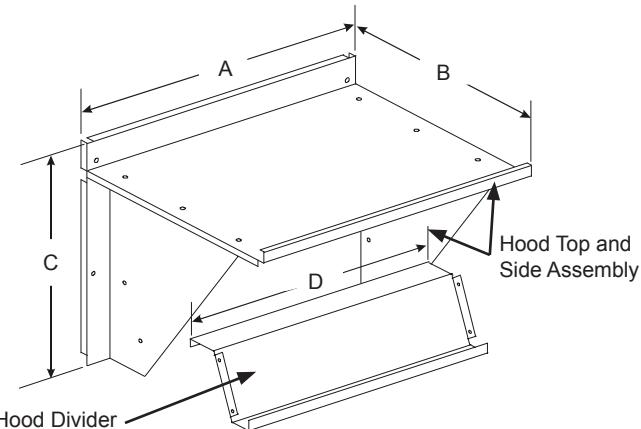

Fig. 3 - Hood Assembly
5. Insert the hood divider between the hood sides. (See Fig. 3) Secure hood divider with 2 screws (provided) on each hood side. Screws should go through the hood sides into the divider. The hood divider is also used as the bottom filter rack for the aluminum filter. On hood for extra large cabinet install filter divider. (See Fig. 4.)